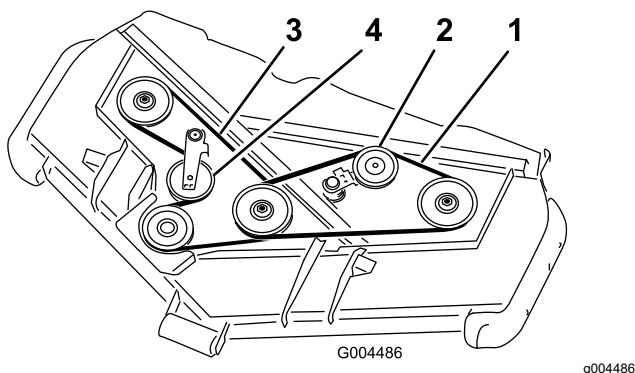

Figure 20
3. Using a breaker bar or similar tool, move the idler pulley for the top belt (Figure 20) away from the top drive belt to release the belt tension and allow the belt to be slipped off the pulleys.
4. Route a new belt around the gearbox pulley, bottom spindle pulleys, and idler pulley assembly as shown in Figure 20.
5. Route a new belt around the top spindle pulleys and idler pulley assembly as shown in Figure 20.